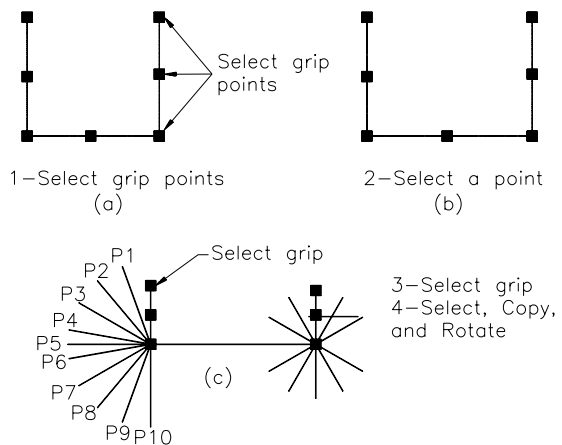

Figure 6-51 Drawing for Exercise 2
1. Use the **LINE** command to draw the shape shown in Figure 6-51(a).
2. Use grips (**Stretch** mode) to get the shape shown in Figure 6-51(b).
3. Use the **Rotate** and **Stretch** modes to get the copies shown in Figure 6-51(c).